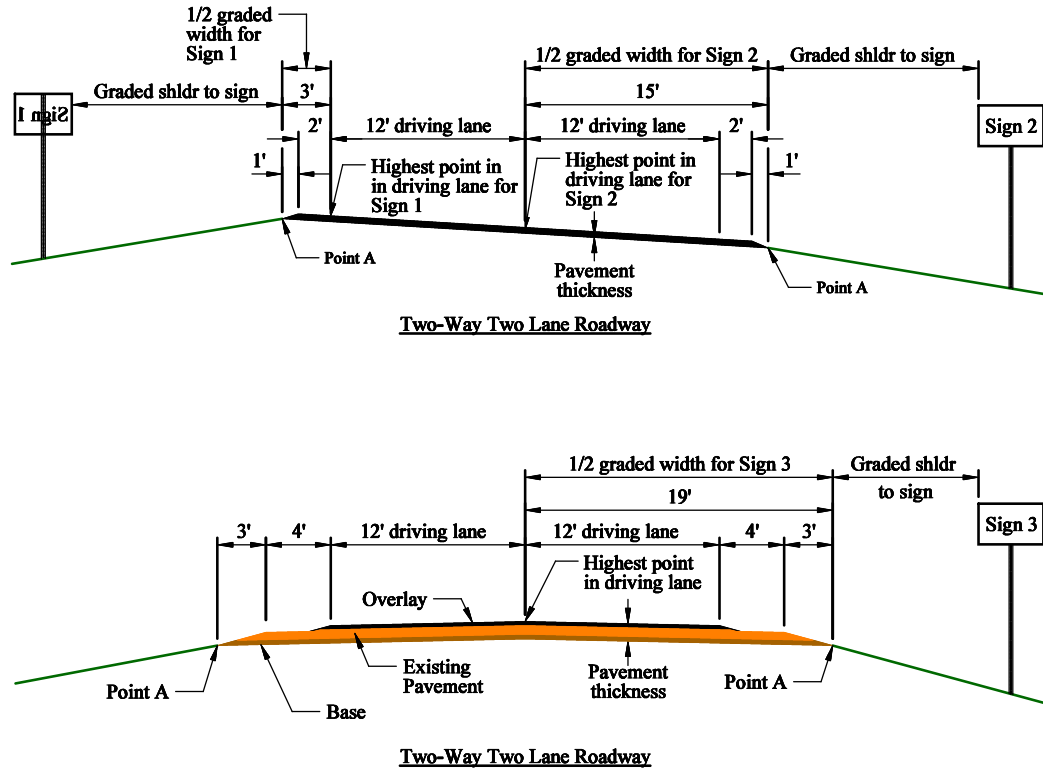

Figure 20 – Graded Width Examples for Perforated Tube Supports
40. **Graded Width:** The graded width is double the distance, in inches, from the highest point in the driving lane(s), which pertains to the sign, to the point where the bottom of the pavement depth intersects the inslope (Point A in Figure 20.) The program assumes that the roadway is symmetrical and if it is not, it has to be adjusted as shown in the examples below. For Sign 1, the graded width is calculated as  $3' \times 2 = 6'$  or 72".
41. **Graded Shldr to Sign:** The distance, in inches, from the edge of the graded width to the edge of the sign(s) closest to the roadway. For example, the graded shoulder to sign distance for Sign 3, in Figure 20, can be calculated as 18' (the minimum required horizontal distance, see ND Standard Drawing D-754-23) minus 4' (shoulder width) minus 3' (distance from the shoulder to Point A.) Therefore, the graded shoulder to sign distance for Sign 3 is 11' or 132".